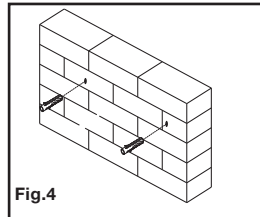

Fig.4
4. Place the wall plate against the wall over the inserted anchors and attach it using the lag bolts (A) and lag bolt washers (B) provided (see Fig. 4). **Do not over-tighten these bolts and do not release the wall plate until both bolts are in place.** Ensure that the wall plate remains level after both bolts are secured.